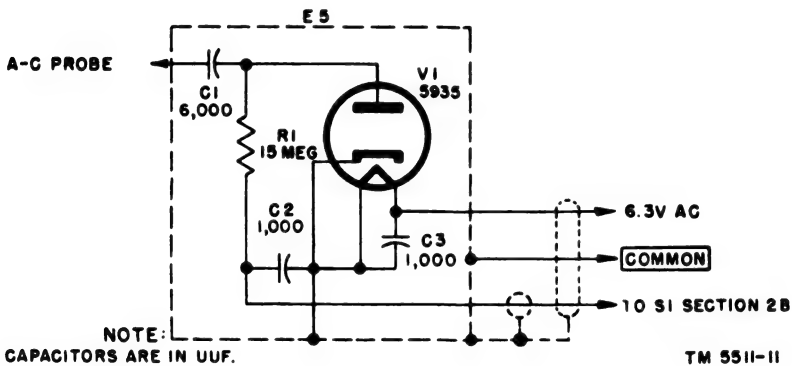

Figure 11. A-c probe, schematic diagram.
*e. A-C PROBE.* The a-c probe (figs. 11, 20, and 21) consists of a diode mounted in a holder. In addition, there is a coupling capacitor, a coupling resistor, and bypass capacitors. The diode acts as a rectifier which changes the applied ac to dc. The dc is then applied to the
a. The a-c probe (figs. 11, 20, and 21) consists of a diode mounted in a special holder to enable the probe to make accurate measurements at high frequencies. The a-c probe (fig. 11) consists of a diode (V1) connected in the circuit as a shunt half-wave rectifier, an input coupling capacitor (C1), an input resistor (R1), and bypass capacitors (C2 and C3). Because of the high value of the input resistor (15 megohms) and the input capacitor (6,000 uuf), the diode is essentially a peak indicating rectifier. The scale of the instrument is calibrated to read rms volts for a sine wave input. For nonsinusoidal input voltages, the instrument reads .707 of the peak value. Diode V2 (6AL5) acts as a balancing diode and is used to buck out the contact potential of V1 with no input applied